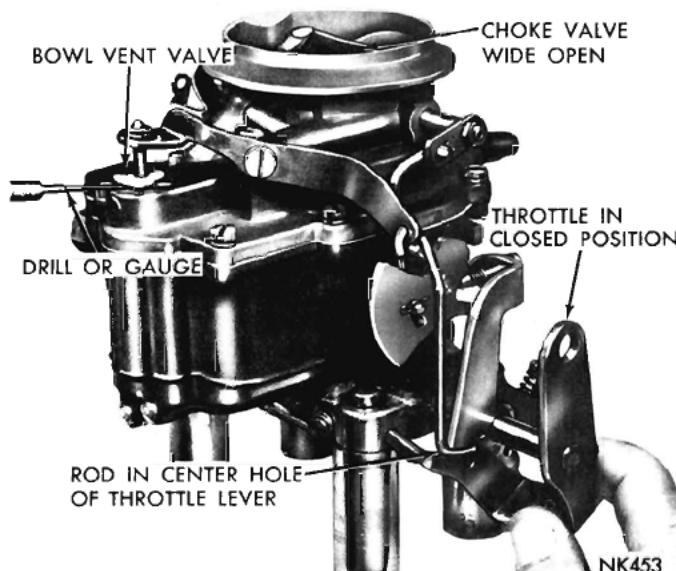

Fig. 22—Measuring Bowl Vent Valve Opening
(1) Back off idle speed adjusting screw. Open the choke valve, so that when the throttle valves are closed, the fast idle adjusting screw will not contact the fast idle cam.
(2) Be sure the pump rod is in the medium stroke hole in the throttle lever, and that the bowl vent clip on the pump stem is in the center notch.
(3) Close the throttle valves tightly. It should be just possible to insert a  $\frac{3}{64}$  inch drill between the bowl vent and the vent seat protruding through the air horn, as shown in (Fig. 22).